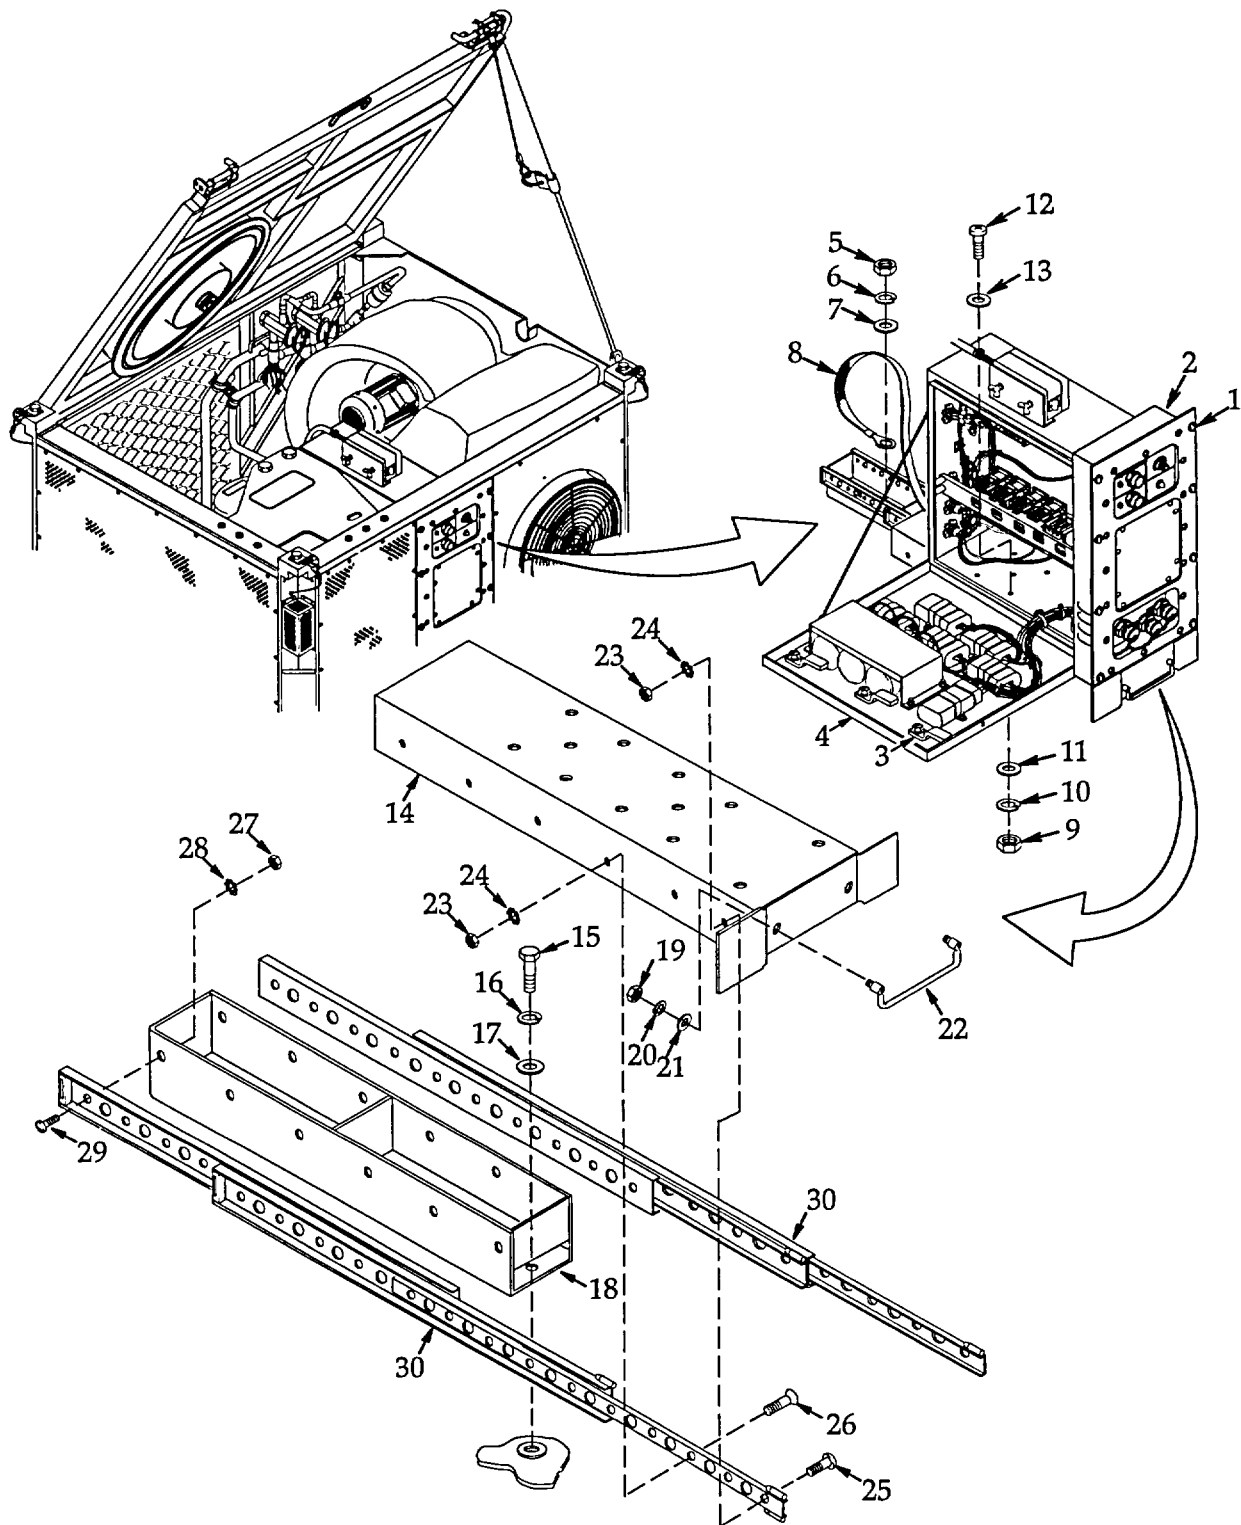

Figure 4-32. Electrical Assembly Mounting Bracket and Slide.
- a. **Removal.** See figure 4-32.
- b. **Disassembly.** See figure 4-32.
- (2) Remove 10 nuts (23), lock washers (24), three pan head screws (25), two countersunk screws (26), and bracket (14).
- (3) Remove 12 nuts (27), lock washers (28), screws (29), and two slides (30) from mounting bracket (18).
c. **Assembly.** See figure 4-32.
- (1) Install two slides (30) onto mounting bracket (18) and align mounting holes. Secure with 12 screws (29), lock washers (28), and nuts (27).
- (2) Install bracket (14) and align mounting holes. Locate mounting hardware as noted during disassembly then secure with three pan head screws (25), two countersunk screws (26), 10 lock washers (24), and nuts (23).
- (3) Install handle (22), and secure using two flat washers (21), lock washers (20), and nuts (19).
d. **Installation.** See figure 4-32.
- (1) Install mounting bracket (18) assembly and align mounting holes. Secure using 11 flat washers (17), new lock washers (16), and screws (15).
- (2) Support electrical assembly (2) then turn to release three latches (3) and open power box assembly cover (4). Pull bracket (14) out from unit then carefully place electrical assembly on bracket and align mounting holes. Install eight flat washers (13), screws (12), flat washers (11), new lock washers (10), and nuts (9) to secure electrical assembly to bracket.
- (3) Connect power box assembly ground strap (8) to frame with flat washer (7), new lock washer (6), and nut (5).
- (4) Close power box assembly cover (4) and turn three latches (3) to secure.
- (5) Carefully slide electrical assembly (2) into frame. Be sure no cables or wires are pinched. Secure with eight captive screws (1).
- (6) Lower and secure cover per paragraph 4.2.
- (7) Connect FDECU main power cable to power source and operate per paragraph 2.4.